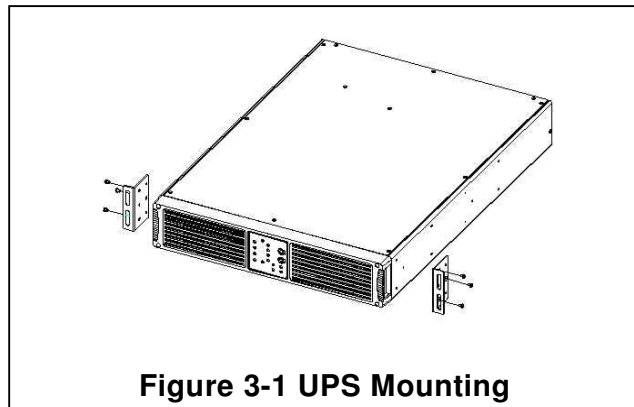

Figure 3-1 UPS Mounting
- Install the mounting bracket. See Figure 3-1.